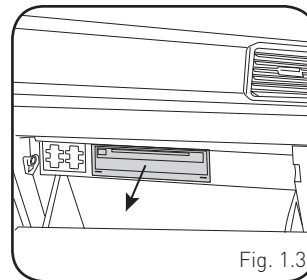

Fig. 1.3
3. **[8 inch radio]** Open glovebox and locate the factory CD player. Using 2 of the supplied removal tools, remove the CD player in the same fashion the radio was removed. Disconnect main wire harness and all antenna connections. (Fig. 1.3)